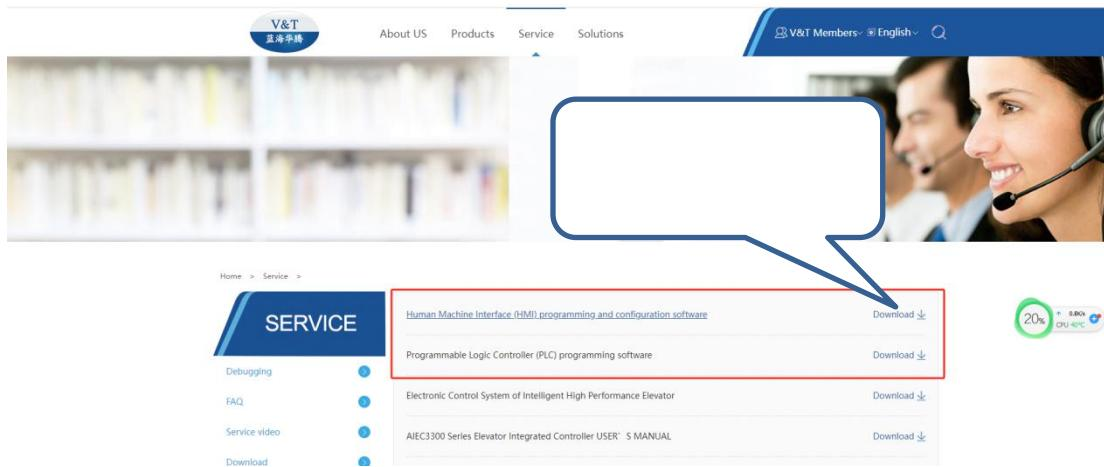

Fig. 6
The software “DP Studio” can be downloaded from www.v-t.com. This version just suitable to the windows operating system (OS), as shown in Fig. 6. Thus, the software “DP Studio” run in windows7, 10, 11 which is accessible.